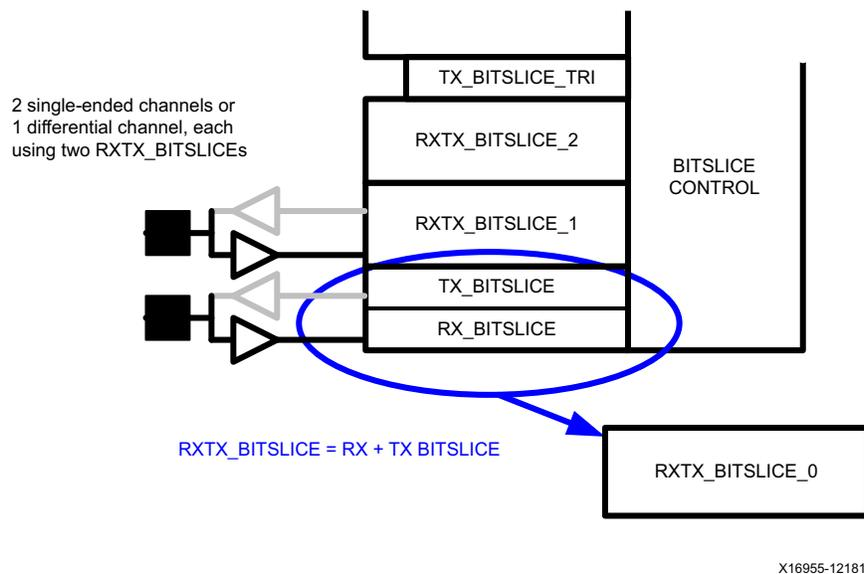

Figure 2-35: Two Single-Ended or One Differential RX Channel
- When using single-ended inputs, two inputs are necessary to calculate the single tap delay, because behind each input pad with input buffer (IBUF) there is a RXTX\_BITSLICE or RX\_BITSLICE having an input delay line and serial-to-parallel conversion engine (Figure 2-35).
- When using differential inputs, a single data channel input can be used to calculate the single tap delay. A differential input occupies two pads and thus covers two RXTX\_BITSLICES. When a normal differential input buffer (IBUFDS) is used, only the even RXTX\_BITSLICE of the two is used. When using a differential input buffer with differential output (IBUFDS\_DIFF\_OUT) one can use both RXTX\_BITSLICES covered by the two input pads. This is the solution for measuring a single tap value for a single differential data channel (Figure 2-35).